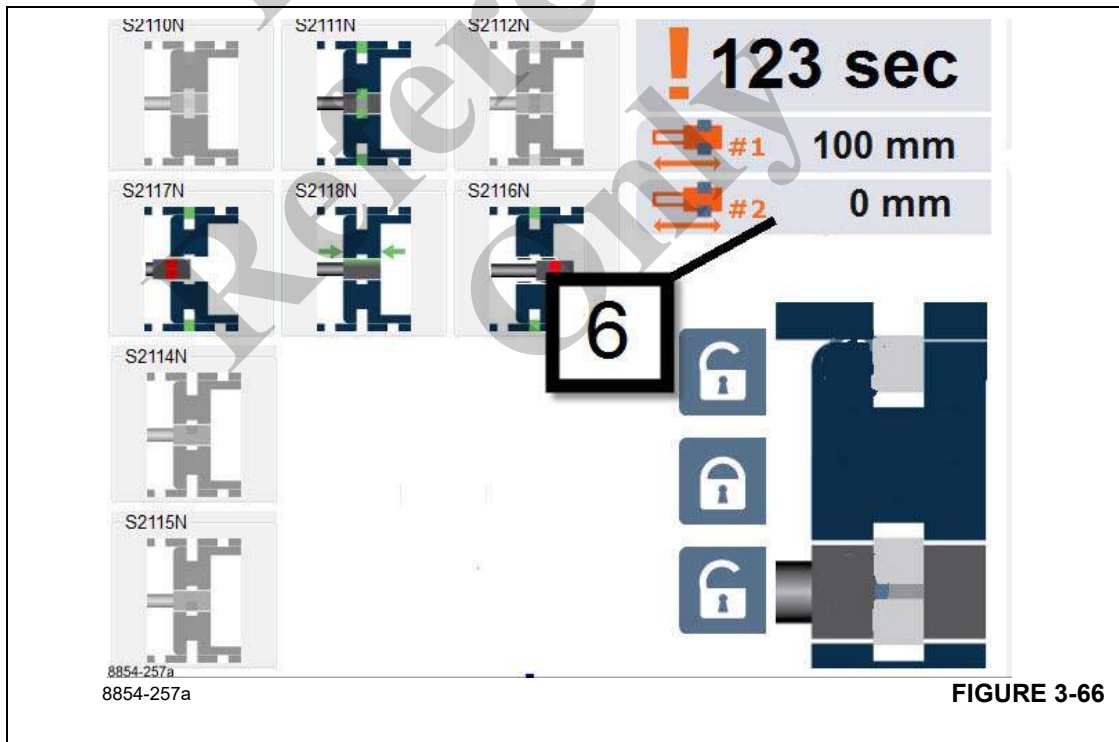

FIGURE 3-66
- If the precision length sensor for the tele cylinder does not show a reasonable value, then the second length sensing can be referred to (6), (Figure 3-66). This is typically from a length potentiometer from the power cable reel in the boom (it is separate from the precision length sensor).